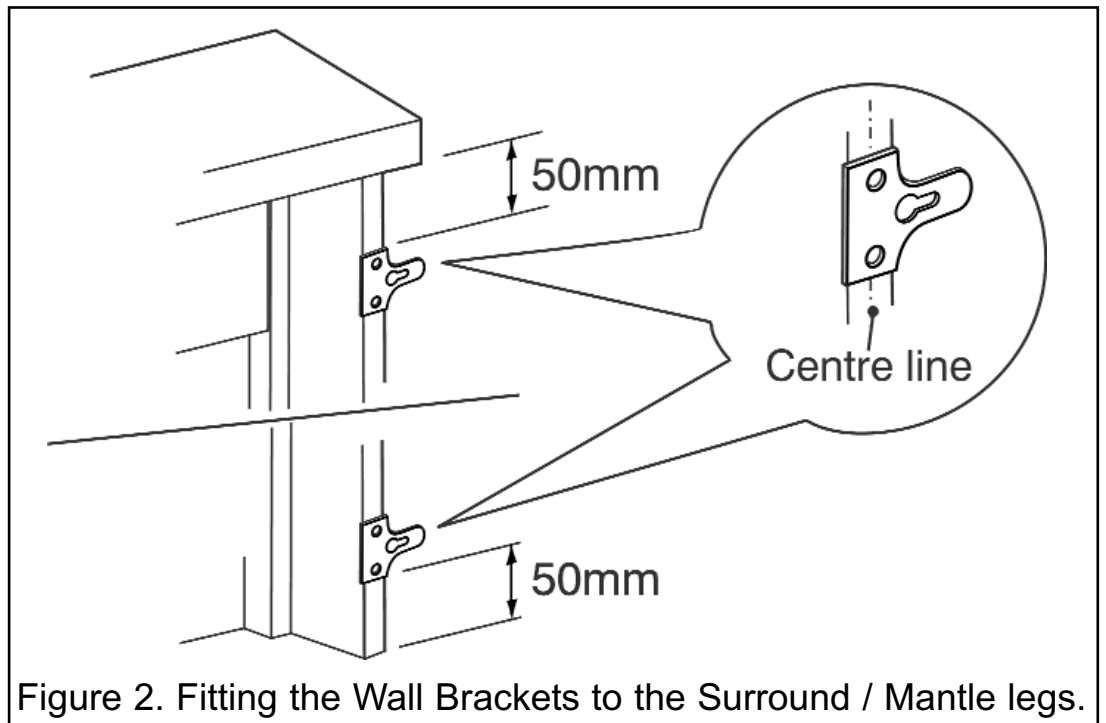

Figure 2. Fitting the Wall Brackets to the Surround / Mantle legs.
- Place the wall fixing brackets 50mm from the top and bottom outside edge of the legs as shown in figure 2. Ensure that the two fixing holes in the brackets are positioned in the centre of the outside edge of the leg. The surround may split if the fixing holes are not central. Secure in place using eight screws.